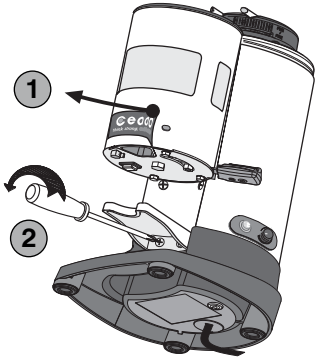

Fig. 9
- 1** Remove the Ceado sticker from the doser (1, Fig. 9) and remove the support fork, undoing the retaining screws (2, Fig. 9). Keep these screws in a safe place.